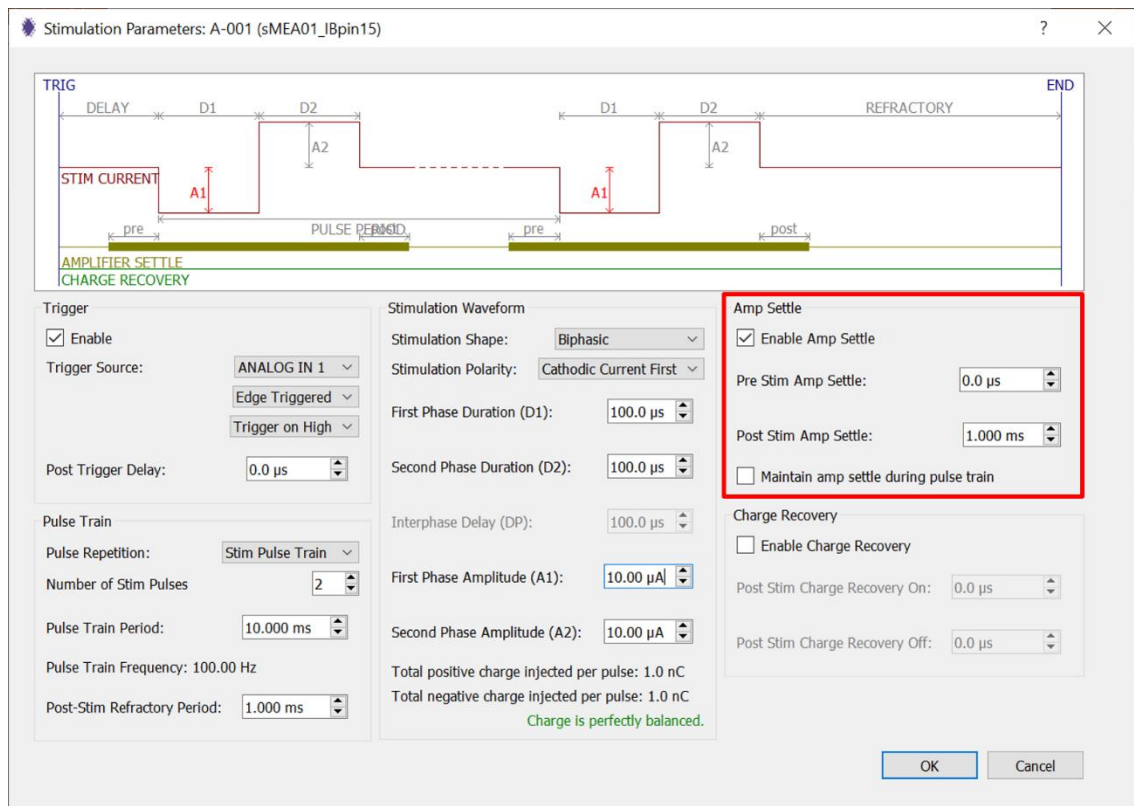

Fig. 79: Stimulation Parameter window with the “Amp Settle” functions highlighted.
- 7) The “Amp Settle” panel (**Fig. 79**) allows the user to set amplifier settle function parameters.